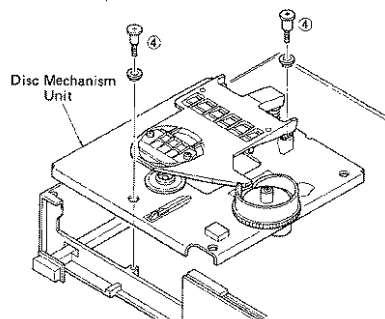

Fig. 4
- a. Remove 2 screws (4) in Fig. 4.